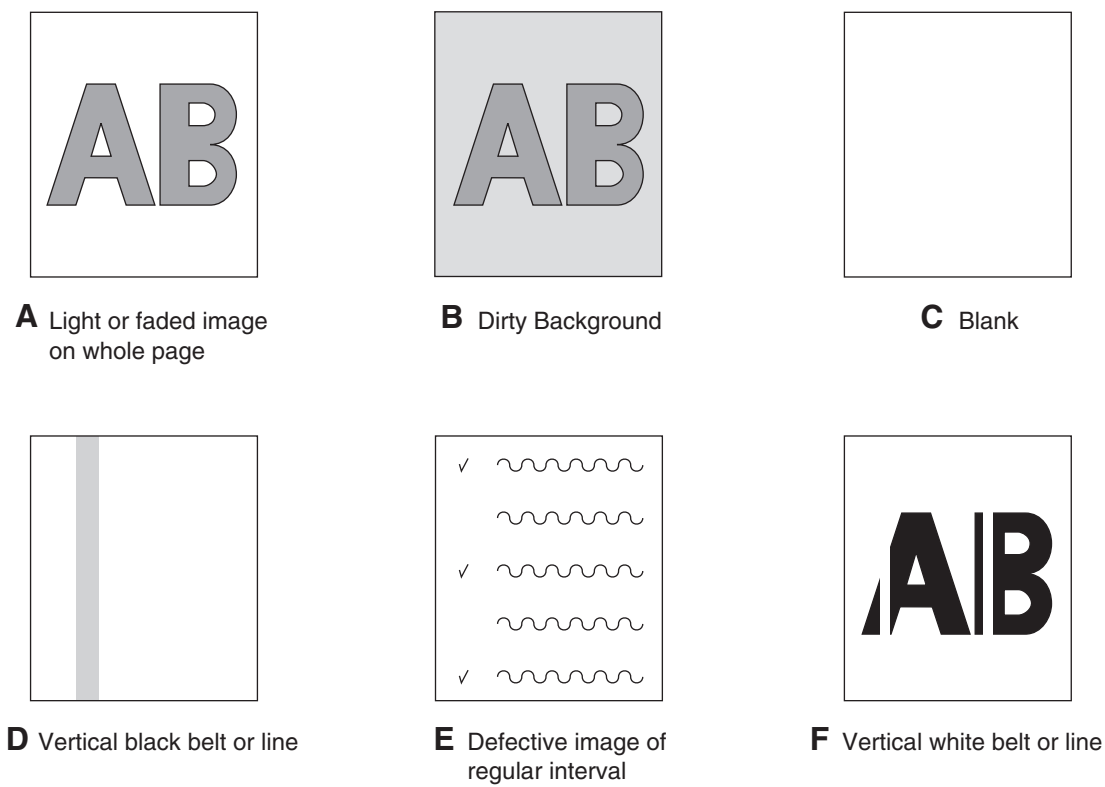

Figure 7.2
(2) Background is dirty (Figure 7.2 B) 212
(4-1) Thin vertical lines (with color) (See Figure 7.2 D) 214
(4-2) Thin vertical lines (without color) (See Figure 7.2 F) 214
(5) Cyclic Print Trouble (Refer to Figure 7.2 E) 215
7.5.3.(1) Color is totally pale (Figure 7.2 A)
7.5.3.(2) Background is dirty (Figure 7.2 B)
7.5.3.(3) Blank Print (Figure 7.2 C)
(4-1) Thin vertical lines (with color) (See Figure 7.2 **D**)
(4-2) Thin vertical lines (without color) (See Figure 7.2 **F**)
7.5.3.(5) Cyclic Print Trouble (Refer to Figure 7.2 E)